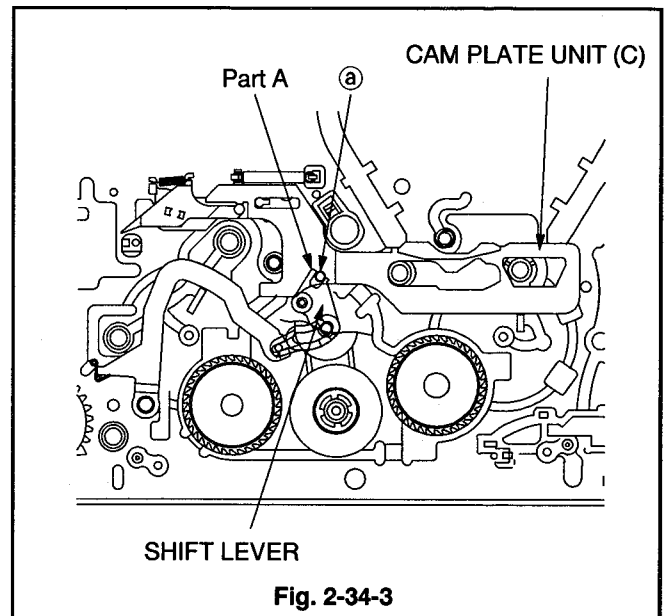

Fig. 2-34-3
- 2 Install the CAM PLATE UNIT (C) shown in Fig. 2-34-3 so that the pin (a) of it enters the part A of the SHIFT LEVER.